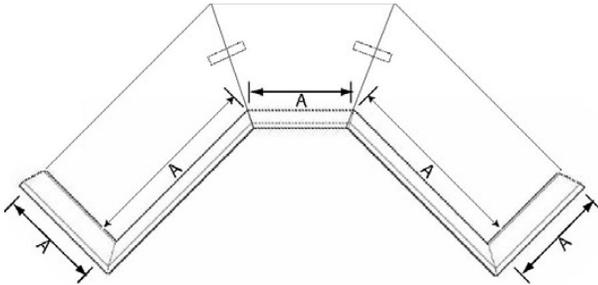
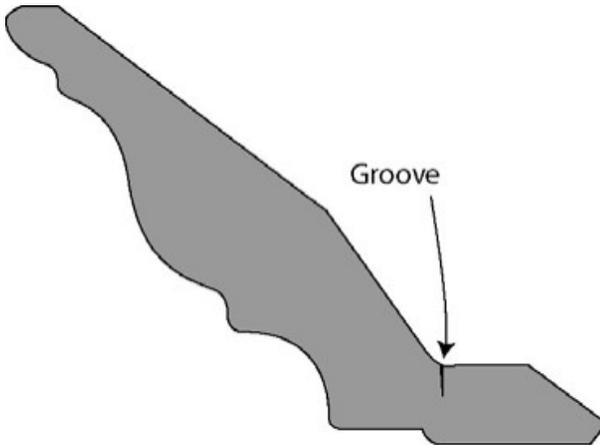

Fig. 7
Fig. 8
1. Measure the top of the cabinets carefully, from point to point (Fig. 7) along the edge where you will install the molding (distances "A" in Fig. 7).
2. Mark your first measurement, for example, begin left to right in installation of Fig. 7, using the shelf depth as your first cut to mark. From the 90° end cut of the panel, mark the distance 14" **in the groove** on the back of the molding (Fig. 8). (The groove is aligned directly over the front edge of the top of the cabinet.)